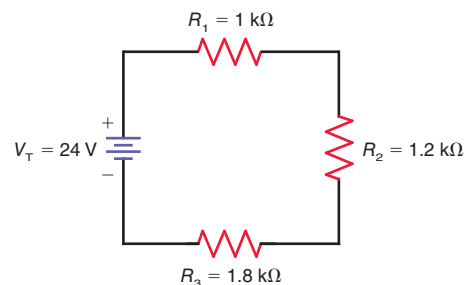

Figure 5-21
5.4 In Fig. 5-21 solve for R_T and I .
5.5 What are the new values for R_T and I in Fig. 5-21 if a 2-k Ω resistor, R_4 , is added to the series circuit?
- 5.7 In Fig. 5-21, find the voltage drops across R_1 and R_2 .
5.21 In Fig. 5-21, calculate P_1 , P_2 , P_3 , and P_T .